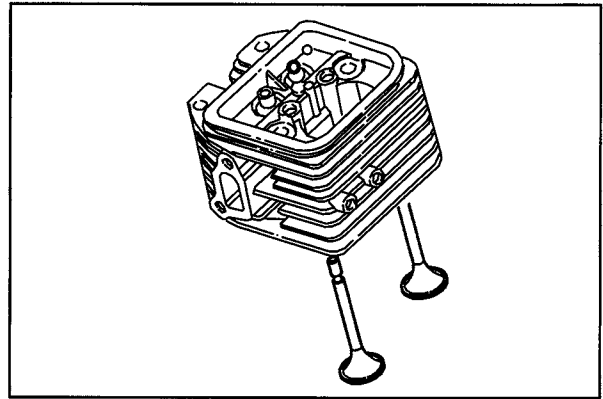

**Fig. 17**
1. Use Valve Guide Driver (1) **#19416** to install new valve stem seals (2), **Fig. 17**.